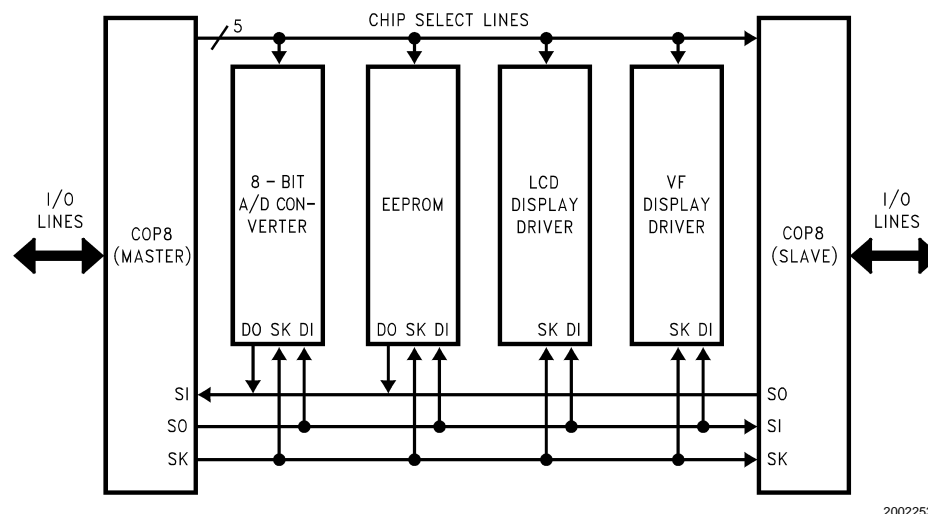

FIGURE 32. MICROWIRE/PLUS Application
MICROWIRE/PLUS is a serial SPI compatible synchronous communications interface. The MICROWIRE/PLUS capability enables the device to interface with MICROWIRE/PLUS or SPI peripherals (i.e. A/D converters, display drivers, EEPROMs etc.) and with other microcontrollers which support the MICROWIRE/PLUS or SPI interface. It consists of an 8-bit serial shift register (SIO) with serial data input (SI), serial data output (SO) and serial shift clock (SK). *Figure 32* shows a block diagram of the MICROWIRE/PLUS logic.
Setting the BUSY bit in the PSW register causes the MICROWIRE/PLUS to start shifting the data. It gets reset when eight data bits have been shifted. The user may reset the BUSY bit by software to allow less than 8 bits to shift. If enabled, an interrupt is generated when eight data bits have been shifted. The device may enter the MICROWIRE/PLUS mode either as a Master or as a Slave. *Figure 32* shows how two microcontroller devices and several peripherals may be interconnected using the MICROWIRE/PLUS arrangements.